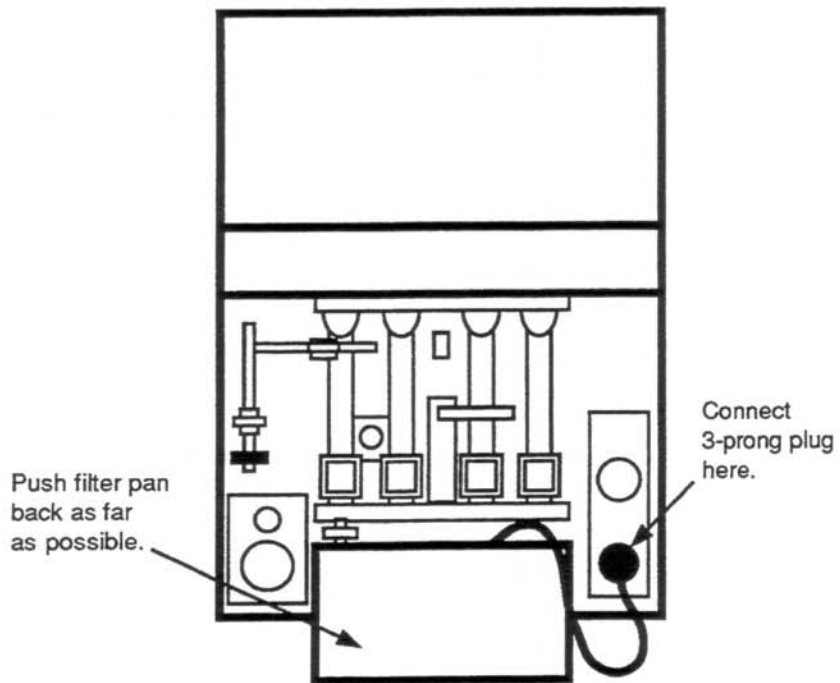

Fig. 23
2. To use the filter pan heaters, find the electrical cable at the rear end of the filter pan. See Fig. 23. Push the filter back into the fryer as far as it will go.